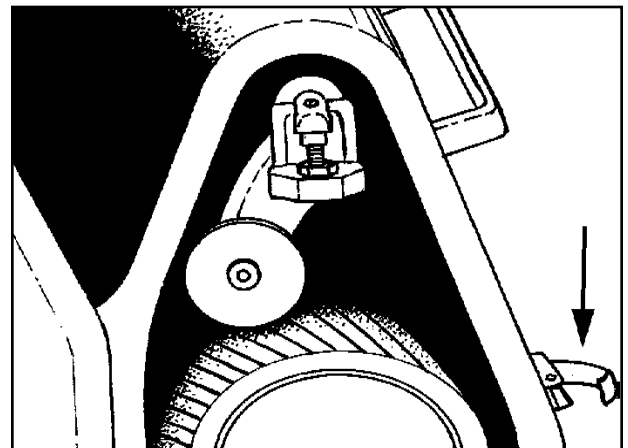

Figure 12
5. Pull the draw latch forward to release the access door to gain entry to the sanding chamber. (See Figure 12)
7. Install a new abrasive belt by sliding the abrasive over the tension roller and contact wheel. (See Figure 12)